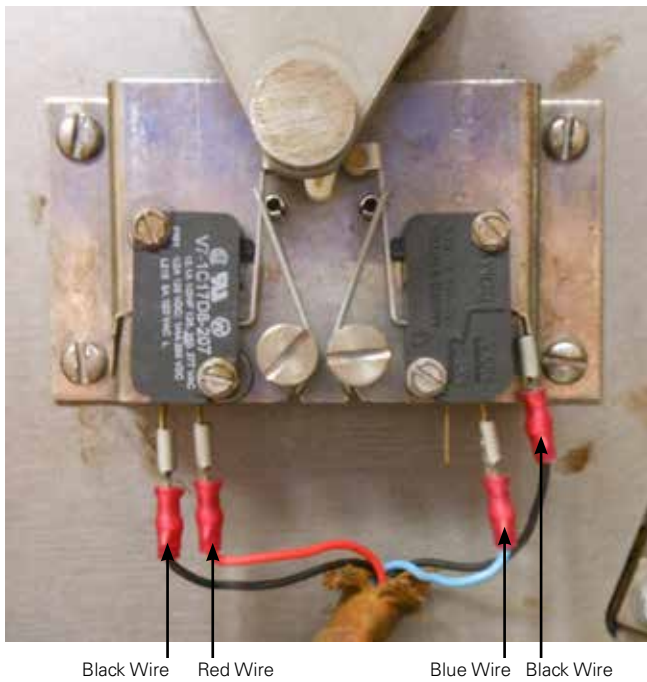

Figure 1. Holding switch on phenolic-board style QD8 tap-changer.
1. Take note of the position of the wires and wire colors connected to the existing holding switch. See Figures 1, 2, and 3 for some examples of the holding switch wiring.
5. Connect the wires to the new holding switch using a pair of pliers. Make sure that the wires are connected as they were on the old switch. Use Figures 1, 2, 3, and 4 as guides for the connections.